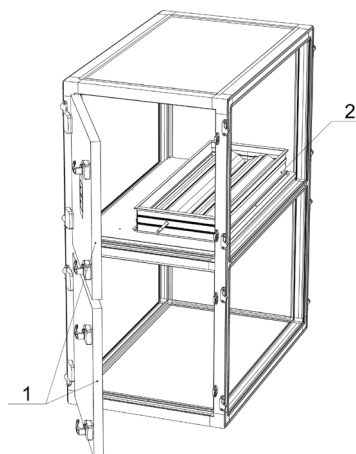

Figure 6.7.4. Two stage mixing section with one damper inside
4. Two stage mixing section with only one middle damper inside (double deck (Figure 6.7.4) or side by side).